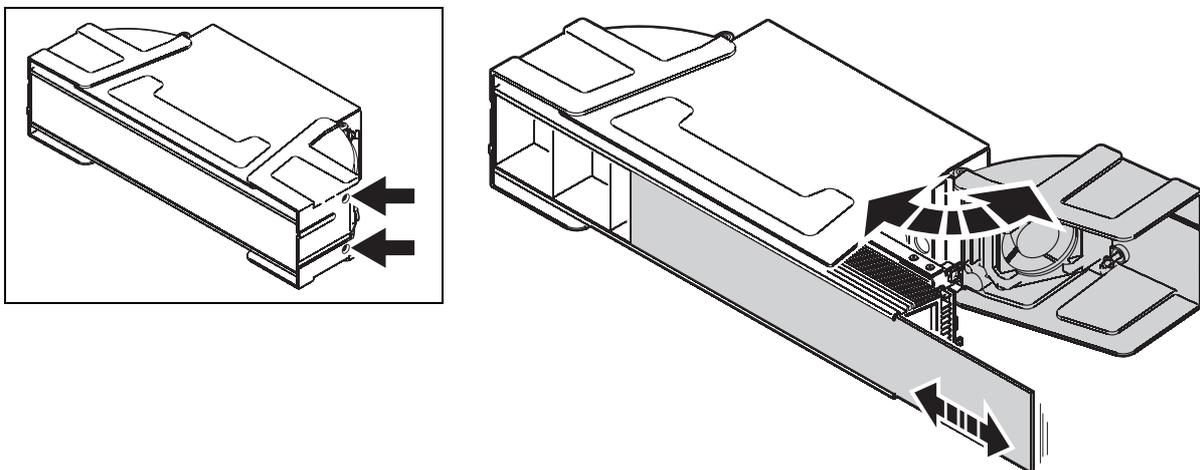

Figure 5: Installing and removing the diffuser front
- See Figure 5. Loosen the two captive screws (arrowed) on the end cap and swing the end cap open.
2. Remove the blue power input connector from the power inlet. See Figure 5. Loosen the two captive screws (arrowed) on the end cap next to the power inlet and swing the end cap open.
To remove the reflector, open both end caps as shown in Figure 5 on page 19 and lift the reflector out of the fixture.